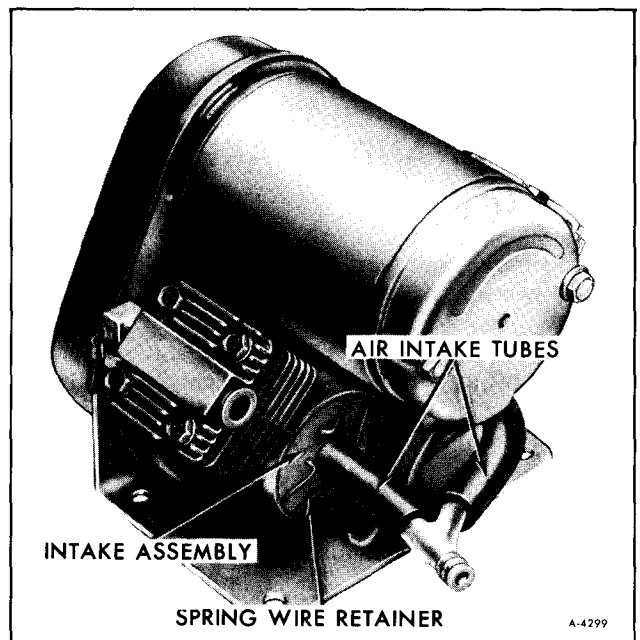

Figure 41—Back of Compressor
1. Remove air intake tubes from intake assemblies at back of housings (figure 41).